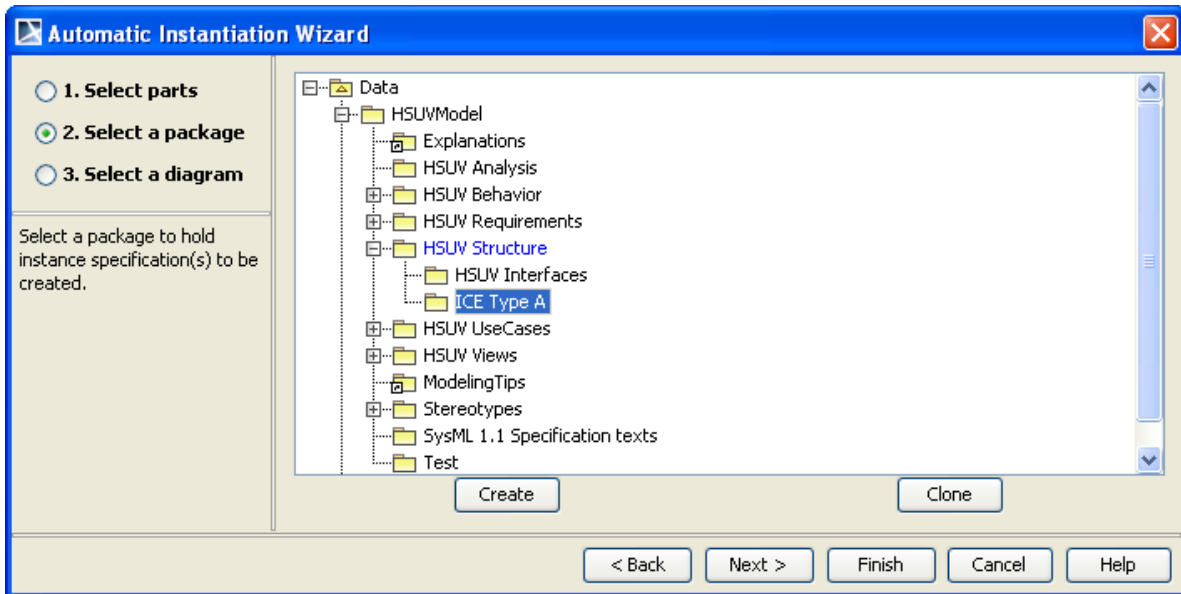

Figure 32 -- Automatic Instantiation Wizard - Step 2. Select a Package
- Select the package and click the **Next** button to proceed to Step 3 (Figure 32).